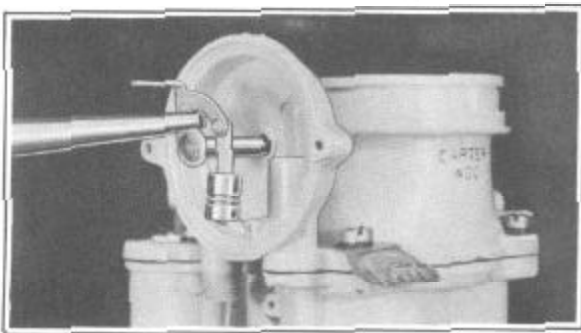

FIGURE 76
20. Install air horn, and piston housing on body. Then install choke piston lever, link, and shaft assembly, Figure 76. (Use new air horn gasket).